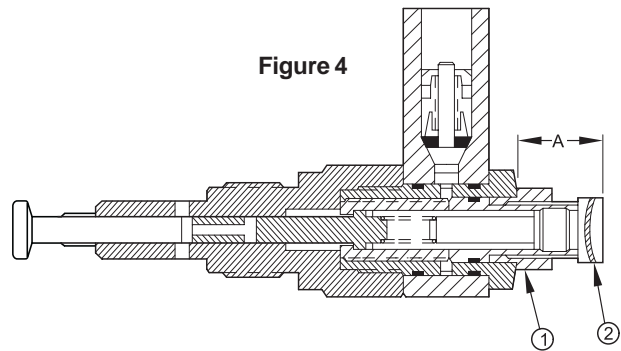

Figure 4
The nominal delivery rate of the pumping element can be adjusted by loosening the locking nut (1, see Figure 4) and rotating the adjustment screw (2) clockwise to reduce delivery, or counterclockwise to increase delivery of the lubricant. The output adjustment table describes the equivalent outputs that can be obtained by varying the distance of the adjustment screw. (A, see Table 1)